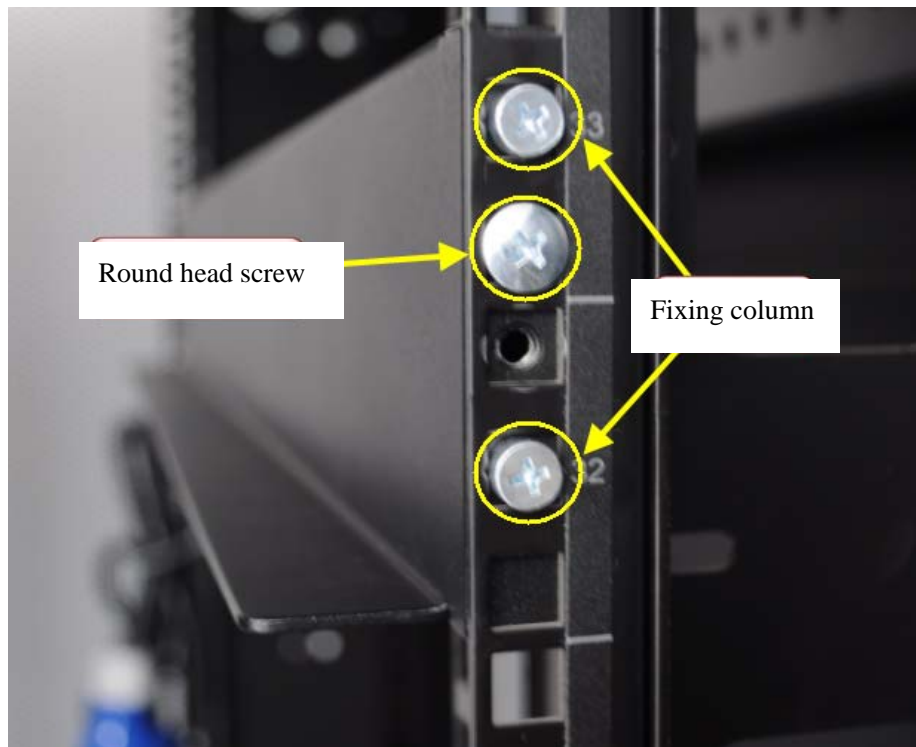

Figure 4-3
6. Adjust fixing positions of two fixing columns of front guide rail as required, so as to leave corresponding positions for front fixing holes of the equipment, place guide rail to a horizontal position, align lower edge with 32U starting point, extend fixing columns into angle rail fixing holes, and fix them with round head M5×6 screws, as shown in Figure 4-3, while fixing positions of round head M5×6 screws are also required to be ascertained